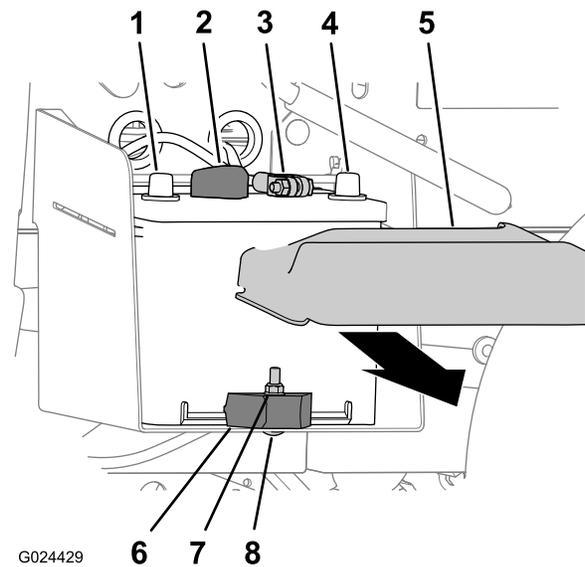

Figure 52
1. Squeeze the sides of the battery cover and remove the cover from the top of the battery (Figure 52).
2. Disconnect the negative-battery cable from the terminal of the battery (Figure 52).
3. Disconnect the positive battery cable from the terminal of the battery (Figure 52).
2. Remove the locknut, carriage bolt, and battery clamp that secures the battery to the battery tray (Figure 52).
3. Remove the battery from the battery tray (Figure 52).
1. Align the battery to the battery tray of the machine (Figure 52).
Note: Ensure that the positive and negative posts of the battery are aligned as shown in Figure 52.
2. Secure the battery to the battery tray with the battery clamp, carriage bolt, and locknut (Figure 52).
1. Connect the positive battery cable to the terminal of the battery (Figure 52).
2. Connect the negative battery cable to the terminal of the battery (Figure 52).
3. Install the battery cover onto the top of the battery (Figure 52).